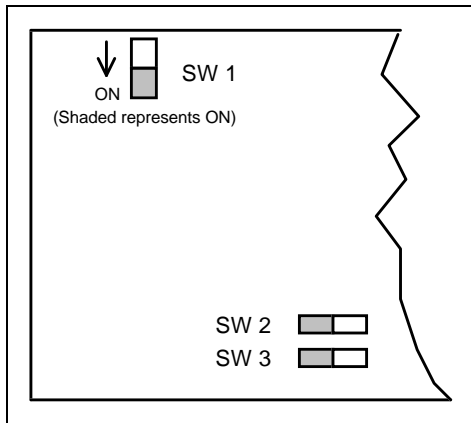

Figure 9 - RIC Board Switch Locations
3. Refer to Figure 9 or the location of SW1 thru SW3. Verify SW1 thru SW3 switch positions as follows: